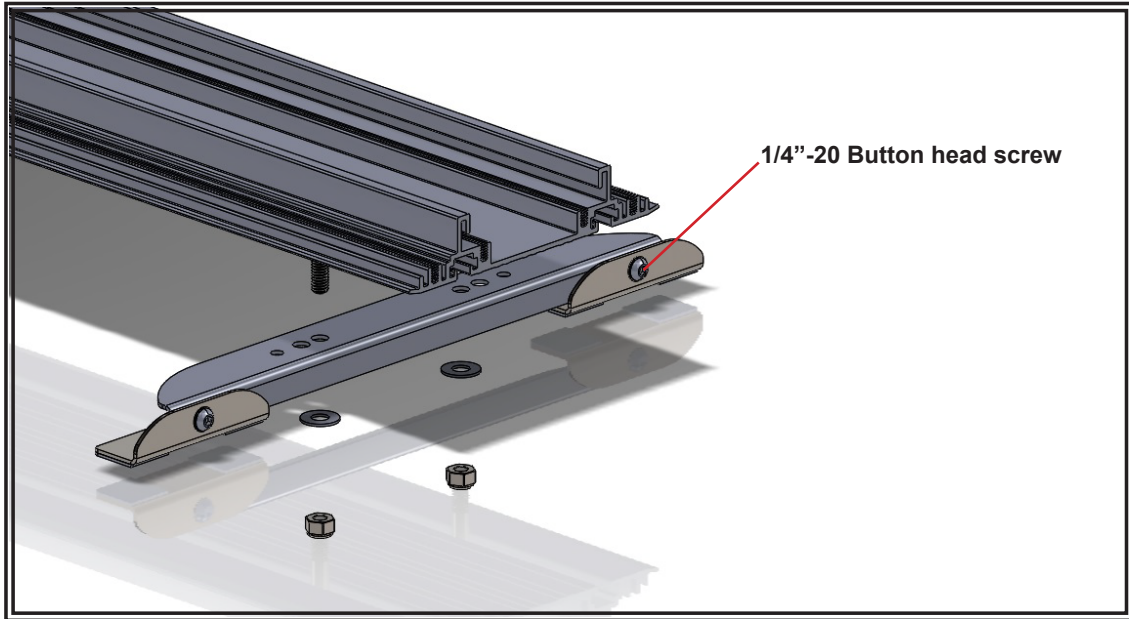

Figure 1
2. Attach the mount to the lightbar using the hardware supplied with the lightbar, ensure the bolts used do not extend more than 3/4". Do not tighten the hardware - allow the mount to slide along the channels of the lightbar extrusion. Place the entire assembly on the roof of the vehicle and determine the optimal placement (see Step 1). Tighten the hardware that attaches the mount to the lightbar. See Figure 1.